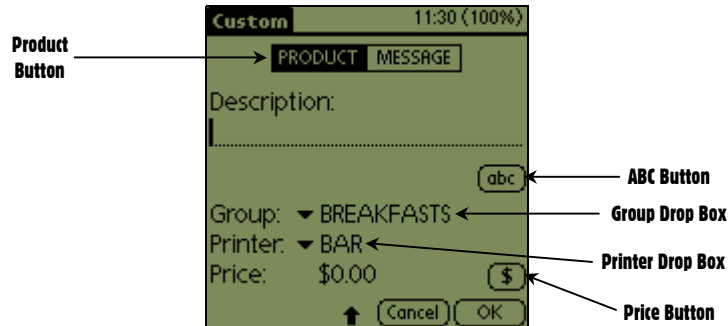

Fig 2.8(a) Custom product screen.
1. First use the stylus pen to select **PRODUCT**, highlighted in **Fig 2.8(a)**.